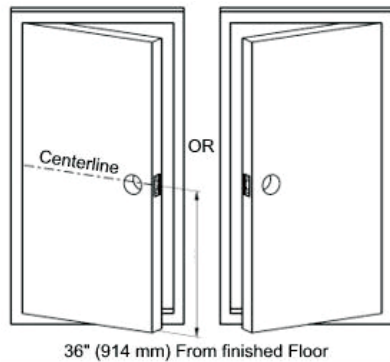

Fig. 1
- 1.1 Mark the centerline of the door and jamb (frame) (see fig. 1).